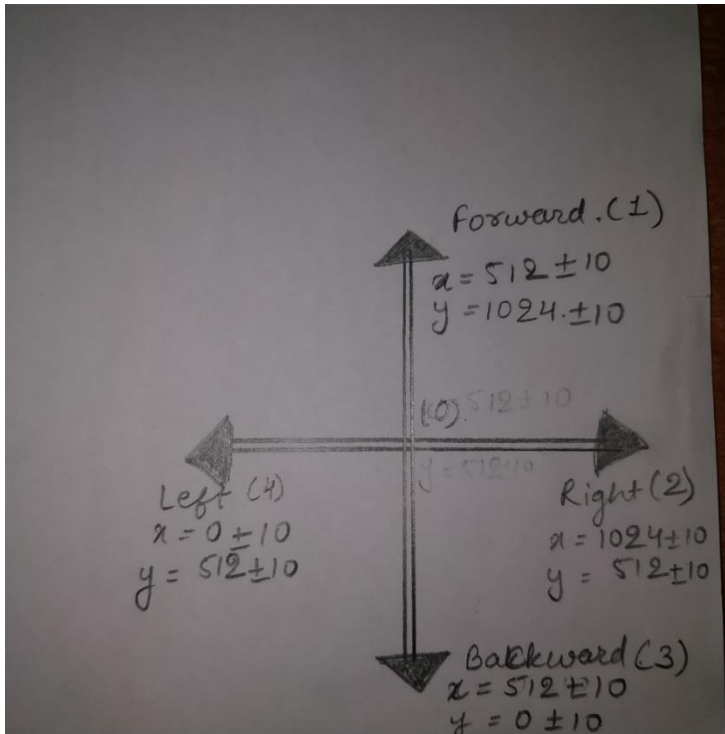

Figure 1
- As per the figure 1 below we will set the sixth term of the array as 1 for forward motion, 2 for right, 3 for backward, 4 for left and 0 for no movement i.e. when the joystick is in the middle.
Step 12: The last element will give the direction. As it can be inferred from figure 1, the number received will give the direction. Accordingly, we will set the angle of the servo motors.